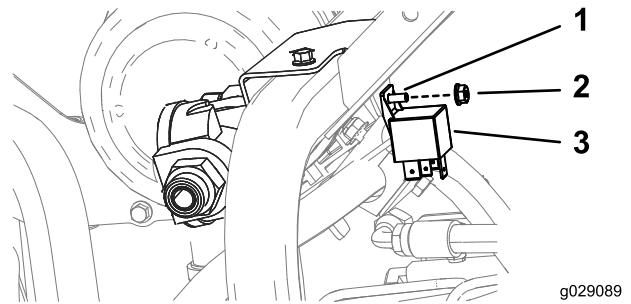

Figure 13
4. Install the relay as shown in Figure 13.